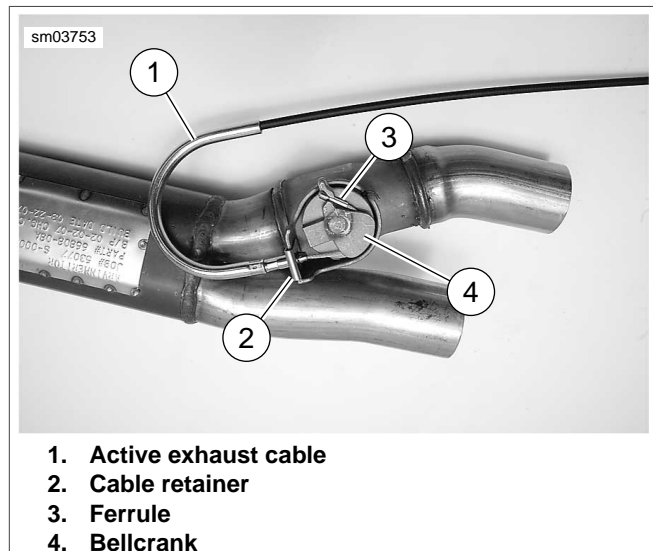
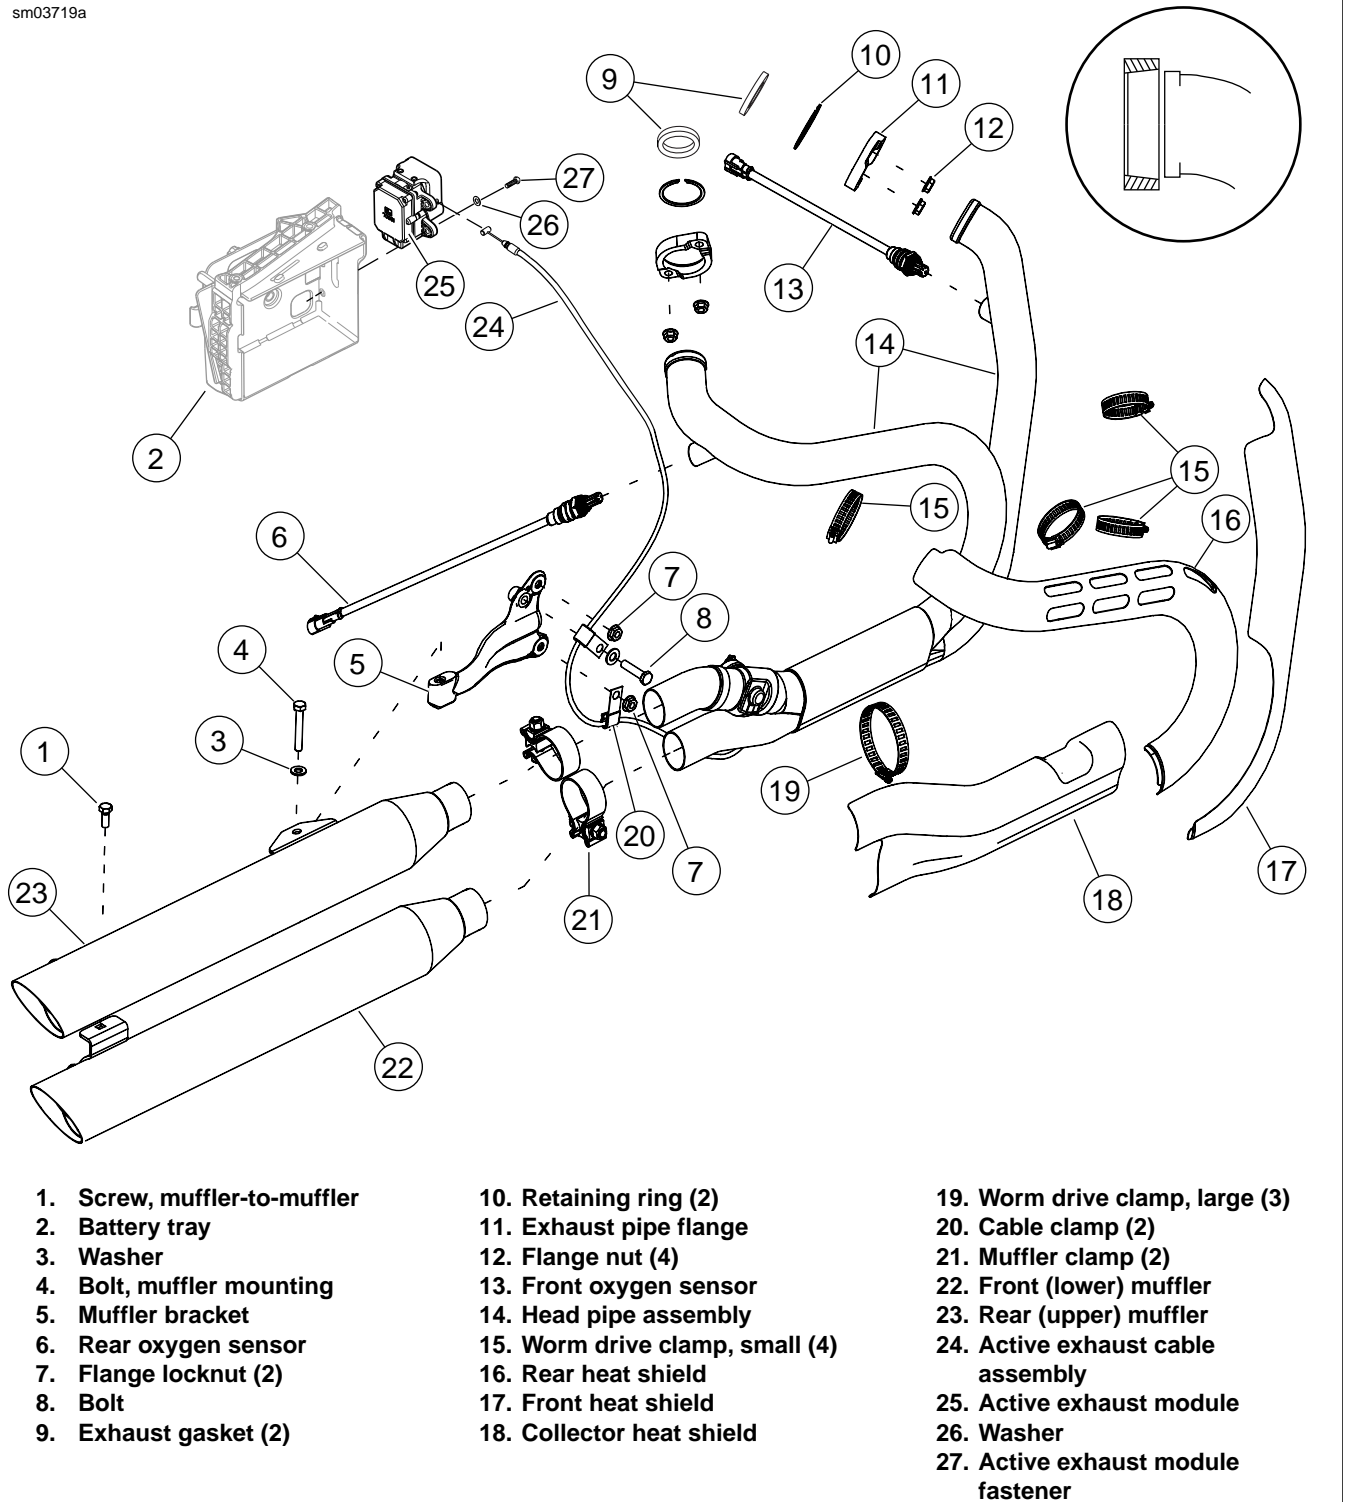
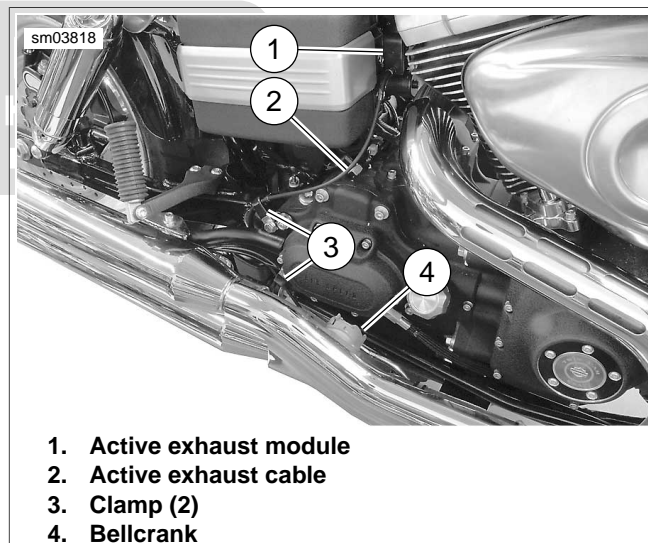

Figure 4-67. Bellcrank: FXDF
Figure 4-68. Exhaust System: FXDF
Figure 4-69. Active Exhaust Cable: FXDF
4. See Figure 4-67. On models with an active exhaust module, remove active exhaust cable (1):
- a. Remove cable and retainer (2) from exhaust pipe.
- b. Remove ferrule (3) from bellcrank (4).
5. See Figure 4-68. Remove screw (1) attaching mufflers together.
6. Remove muffler support bracket bolt (4) and washer (3) attaching mufflers (22, 23) to rear exhaust bracket (5).
7. Loosen nuts on muffler clamps (21). Remove mufflers.
9. Remove flange nuts (12) from front and rear cylinder head exhaust studs.
10. Remove head pipe assembly (14).
11. If necessary, remove flange locknuts (7) and bolt (8) to remove muffler bracket (5).
- See inset in Figure 4-68. Replacement exhaust gaskets (9) are tapered internally. Be sure the thin end goes over
1. See Figure 4-68. If removed, install muffler bracket. Tighten flange locknuts (7) to 15-19 ft-lbs (20.3-25.8 Nm). Tighten bolt (8) to 15-19 ft-lbs (20.3-25.8 Nm).
2. Position ends of head pipe assembly (14) into front and rear cylinder head exhaust ports with holes in exhaust manifold flanges (11) over cylinder head exhaust studs. Loosely install flange nuts (12).
3. Slide muffler clamps (21) onto exhaust pipes.
10. Tighten muffler mounting bolt (4) to 15-19 ft-lbs (20.3-25.8 Nm). Tighten muffler attaching bolt (1) securely.
12. See Figure 4-67. On models with an active exhaust module, install active exhaust cable (1):
- a. Install ferrule (3) in bellcrank (4).
- c. Install cable and retainer (2) on exhaust pipe.
- d. See Figure 4-69. Make sure cable routing is correct and secure with two camps (3).